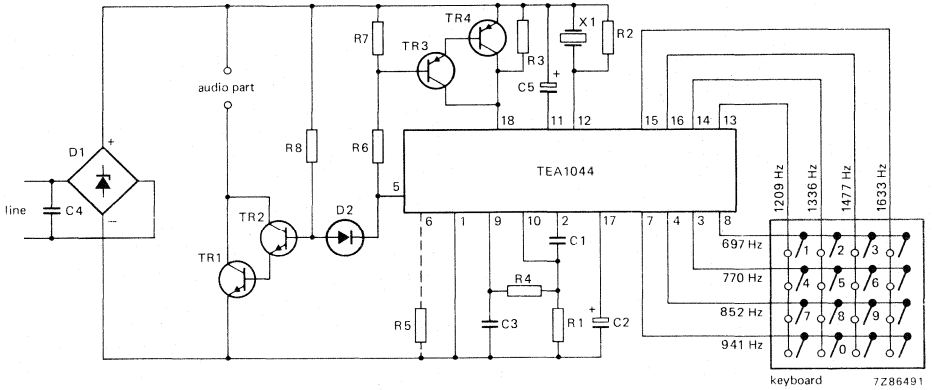

Fig. 4 Application diagram with electronic mute switch and second-order filter (meets CEPT CS203 requirements).
APPLICATION (see Fig. 4)**Line matching**
If there is an impedance match between the lines and the dialling circuit, the balance return loss will be high and reflections on the line will be highly damped. Figure 8 shows that the balance return loss when using the application diagram as shown in Fig. 4 is more than 14 dB. The variation of balance return loss with the frequency is largely caused by an impedance variation due to the low-pass filter capacitor (C2) and the radio-frequency interference filter capacitor C4. Since the highest line impedance that is likely to be encountered is 900Ω the internal impedance of the dialling circuit is set at this level and can be reduced to match lower impedance lines by adding an external resistor between pins 1 and 6.
The level of the higher-frequency tone however is always $2 \pm 0,7$ dB above that of the lower-frequency tone. The total production of the circuits is therefore divided into groups. The group to which any of the integrated circuits belongs is identified by dots on the body of the circuit, the number of dots corresponding with the group number. The combined tone output level is shown as a function of resistor value with group number as a parameter in Fig. 7. After the resistor value has been selected to obtain the required tone output level, the value of the filter capacitor connected to the same pin must be determined. For passive first-order filters (Fig. 4) the time-constant (RC) must be $26 \mu\text{s}$. For active second-order filters it must be $46 \mu\text{s}$. These values accommodate the different attenuation levels for the various tone frequencies due to the 0,3 dB hump at the breakpoint of the filters.